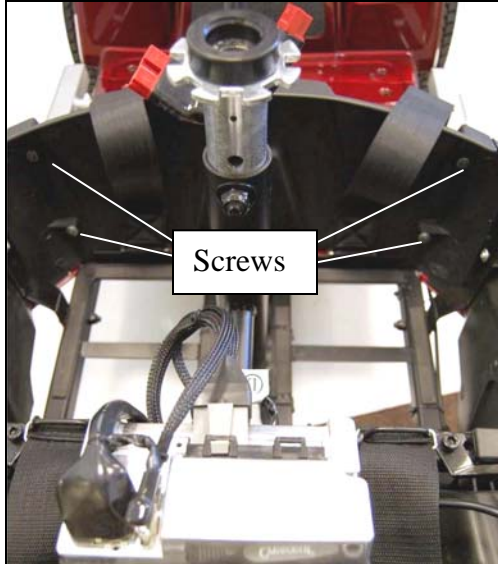

Figure 16. Inside Battery Compartment
- 3) Remove the (4) Phillips screws inside the battery compartment from the front panel. See figure 16.